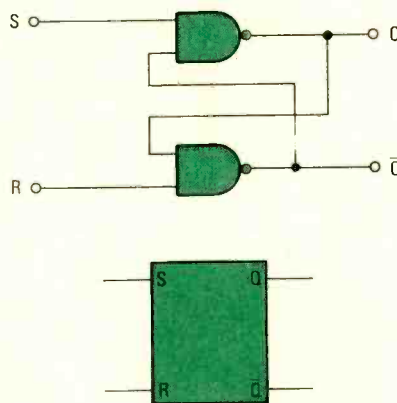
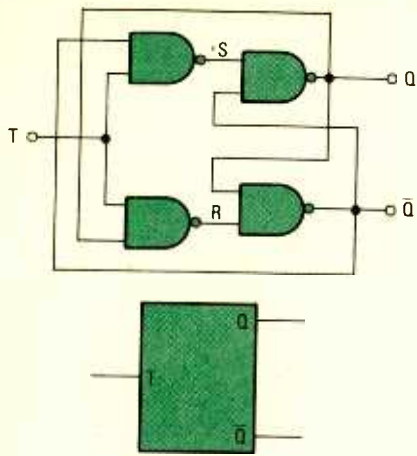

Fig. 1. Here is a simple R-S flip-flop (along with its schematic symbol) implemented using a couple of 2-input NAND gates.
Fig. 2. By combining two additional NAND gates with an R-S flip-flop, a toggle flip-flop is formed.
Fig. 1. Each subscriber telephone is connected in a local loop to a central office, which contains switching equipment, signaling equipment, and a power source that supplies direct current (DC) for the operation of the telephone system within its coverage area.
Fig. 2. The Extension Silencer is little more than an electronic cut-off switch, built around a Triac. The Triac's operating characteristics are key to the operation of the Extension Silencer circuit.
Flip-flops, for instance—the basis for many more complex circuits, like counters, dividers, registers, etc.—can easily be formed from NAND gates. Figure 1 shows a simple R-S flip-flop (along with its schematic symbol) implemented using a couple of 2-input NAND gates. By combining two additional NAND gates with the basic R-S flip-flop (as shown in Fig. 2), a toggle (or T) flip-flop is formed.